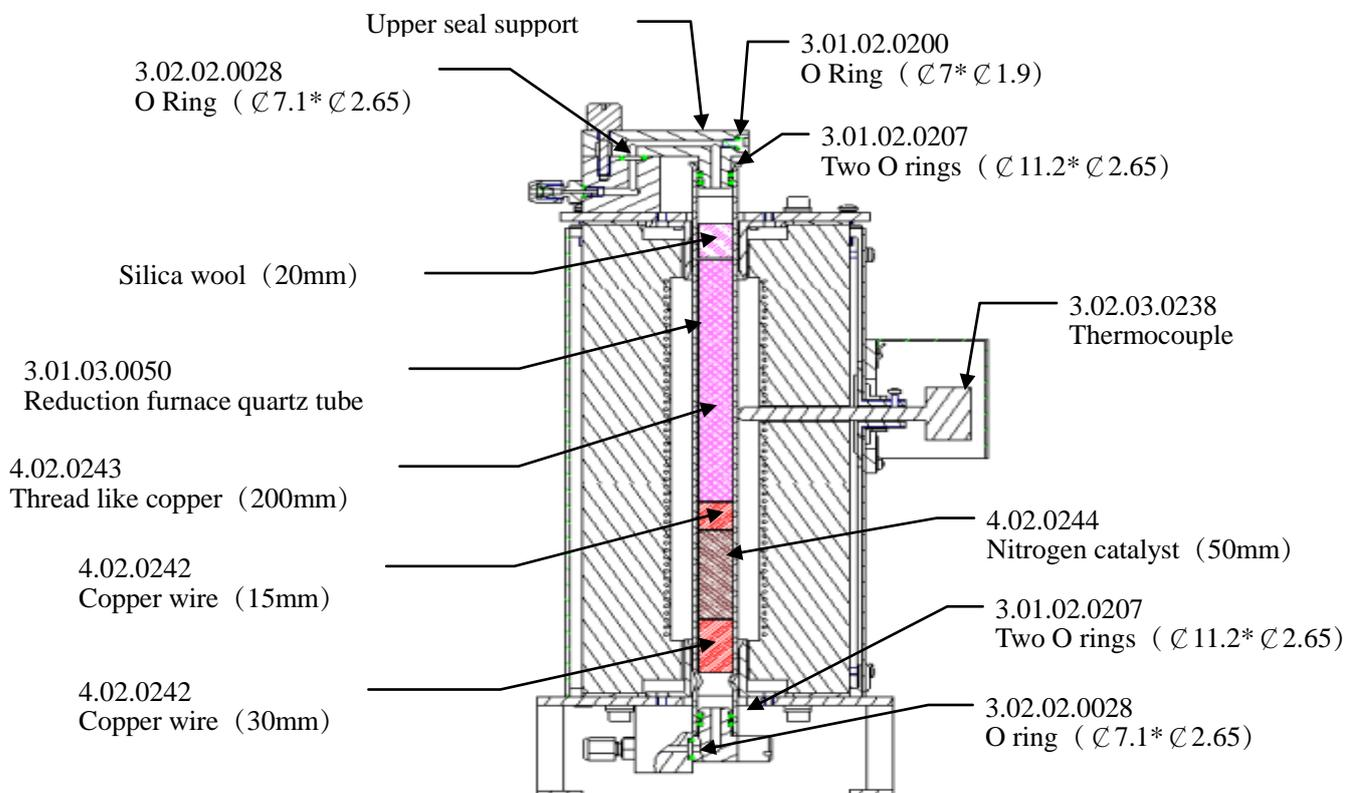
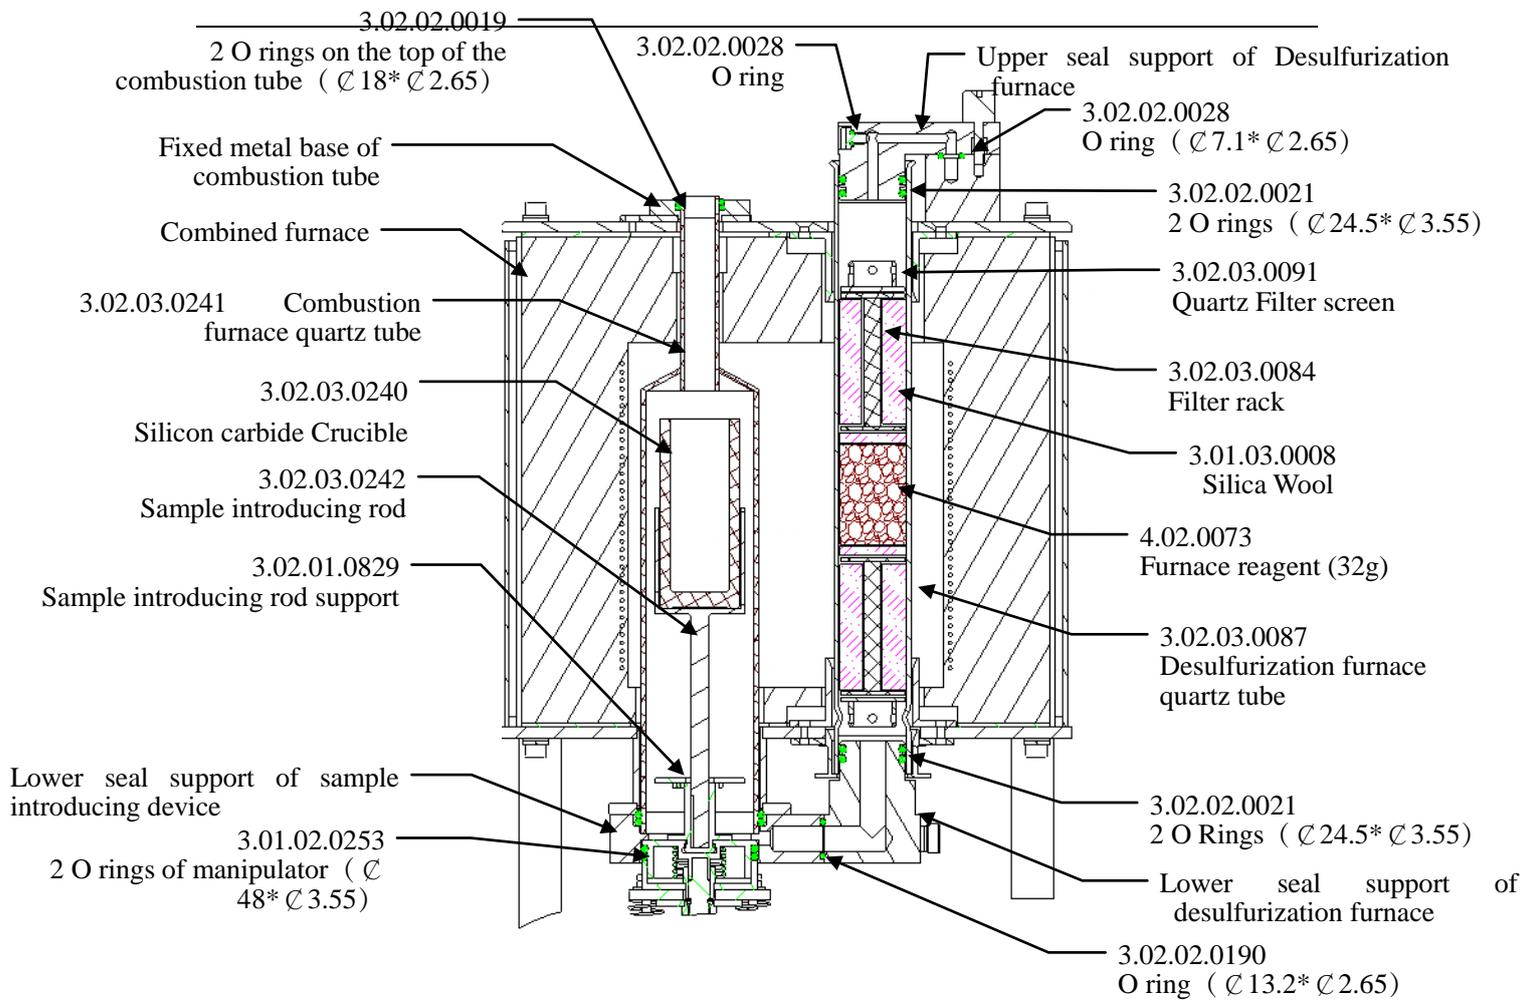

Fig. 3-1 Placement of related components and reagent of reduction furnace
Fig. 3-2 Placement of related components and reagent of combined furnace
- a. Take five quartz tubes( see Fig. 3-1, Fig. 3-2, and 3-3), clean them with alcohol
- c. Install the combustion furnace quartz tube in the combined furnace: firstly, move the manipulator to the crucible change position, dismount the sealing socket located at the bottom of the sample introducing place. Secondly, mount two O rings at the lower end of the silica tube outer wall (refer to Fig. 3-2 for the mounting position of O rings), and then insert the silica tube slowly into the furnace. Lastly, fasten the sealing socket at the bottom of the sample introducing place, and mount two seal rings on the outer wall of silica tube, which is at the top of the combined furnace.